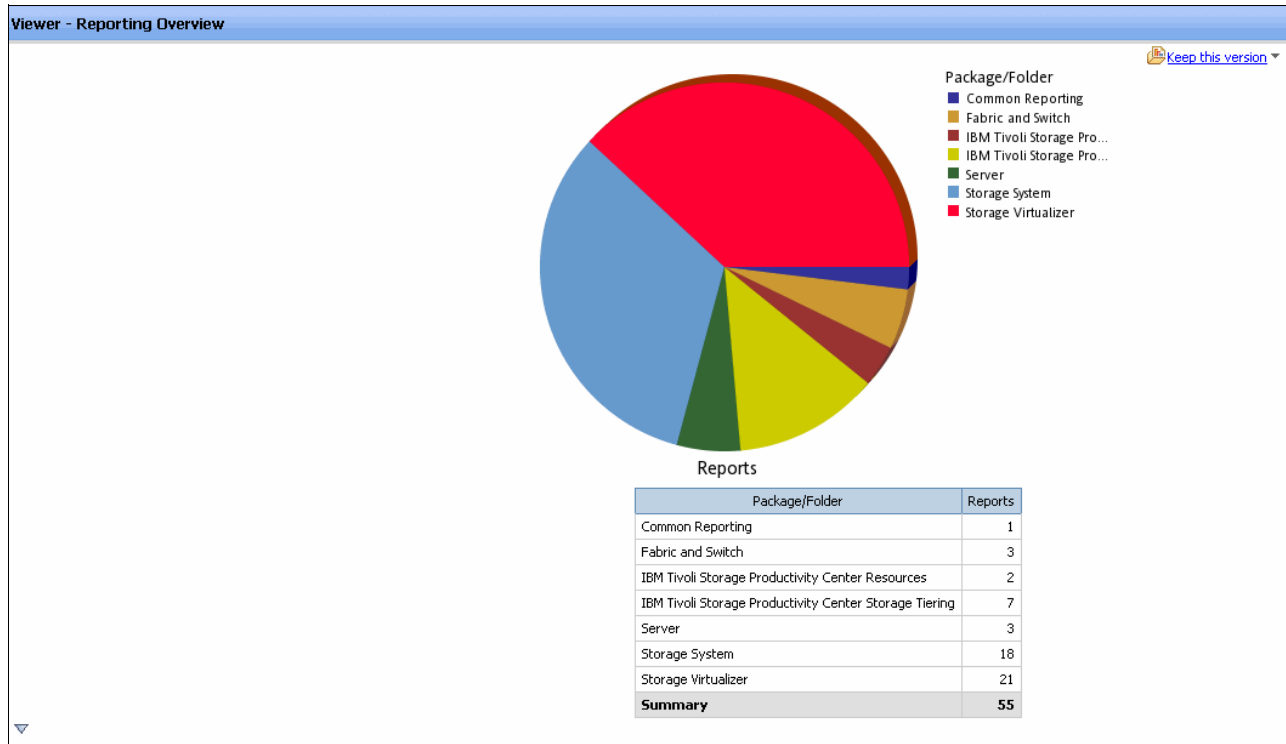

Figure 11-103 Reporting Overview
8. Figure 11-103 shows the Report Overview in pie-chart format.